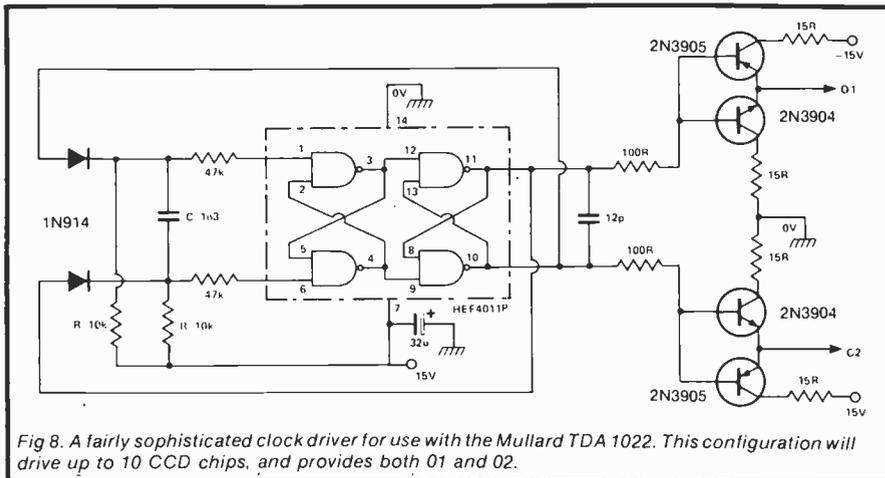

Fig 8. A fairly sophisticated clock driver for use with the Mullard TDA 1022. This configuration will drive up to 10 CCD chips, and provides both 01 and 02.
Both CCDs reviewed here are pure analogue "clocked" devices and require a relevant incorporated oscillator facility. As far as TDA 1022 is concerned, up to 10 chips can be operated with the system configuration recommended by the manufacturer and shown in Fig. 8.
**TABLE THREE:** Setting the clock frequency for the TDA 1022 by selecting component values R and C are referred back to Figure 8. Altering this changes f as shown above.